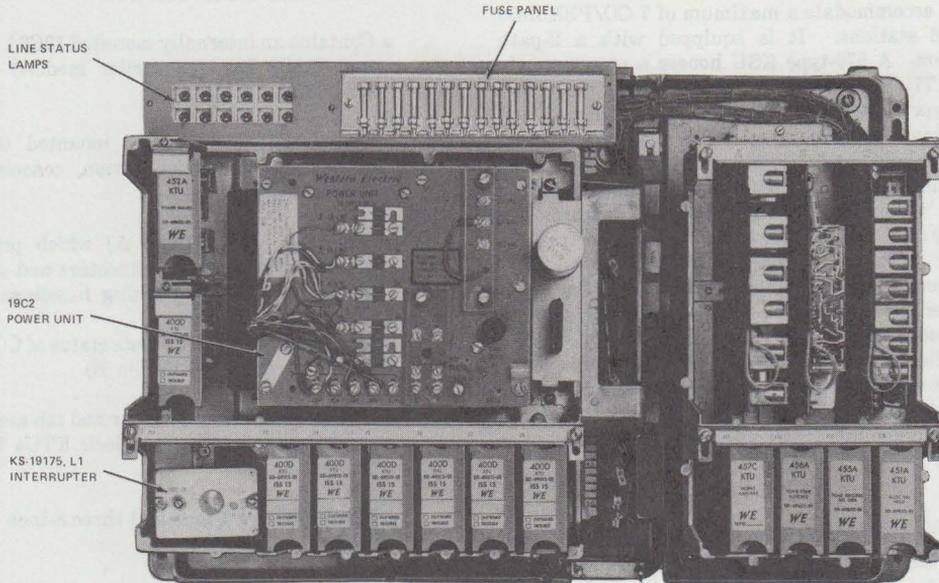

Fig. 1—570-Type KSU (Cover Removed)
**2.03** The 570A KSU (MD) (Fig. 1) has the following mechanical design features: